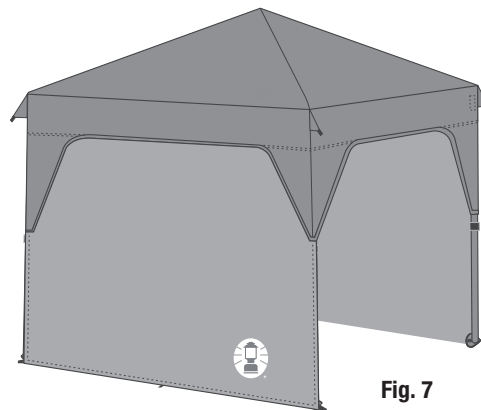

Fig. 7
5. Install the other sidewall following the same way as the sidewall with "Lantern" logo. (Fig. 7)